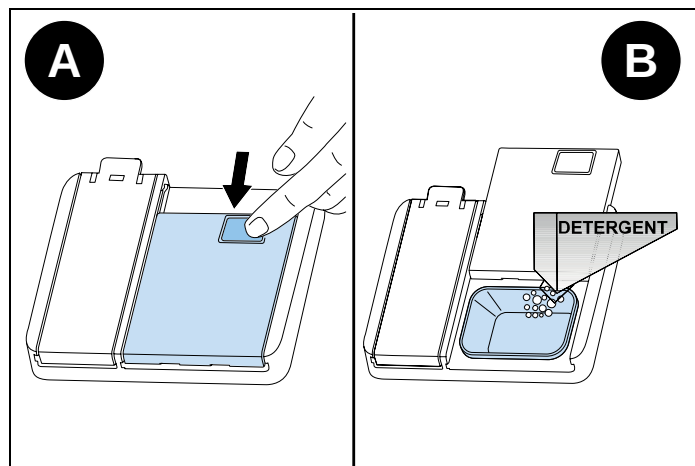

Fig. 57
- 1) Push the latch to open the detergent container as shown in the image (Fig. 57 A)
- 2) Pour/put the detergent into the dispenser (Fig. 57 B)